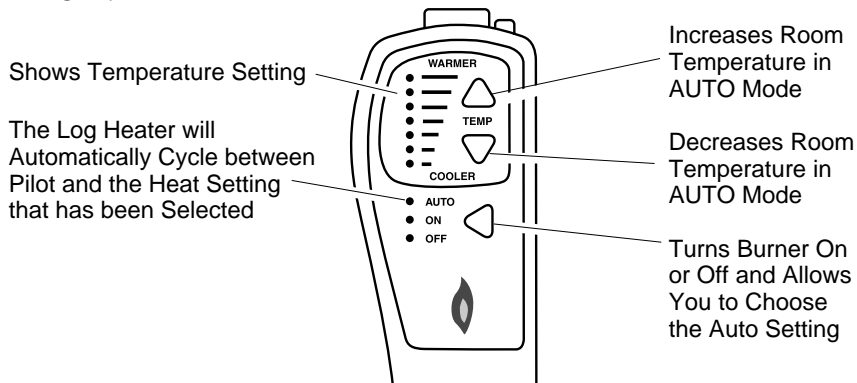

Figure 53 - Hand-Held Thermostat Remote Control Unit Selections (GHRCTA Only)
- 2b. Press the **AUTO/ON/OFF** button on the hand-held remote control (see Figure 53). The lights to the left of the button will show **AUTO**, **ON**, or **OFF**.